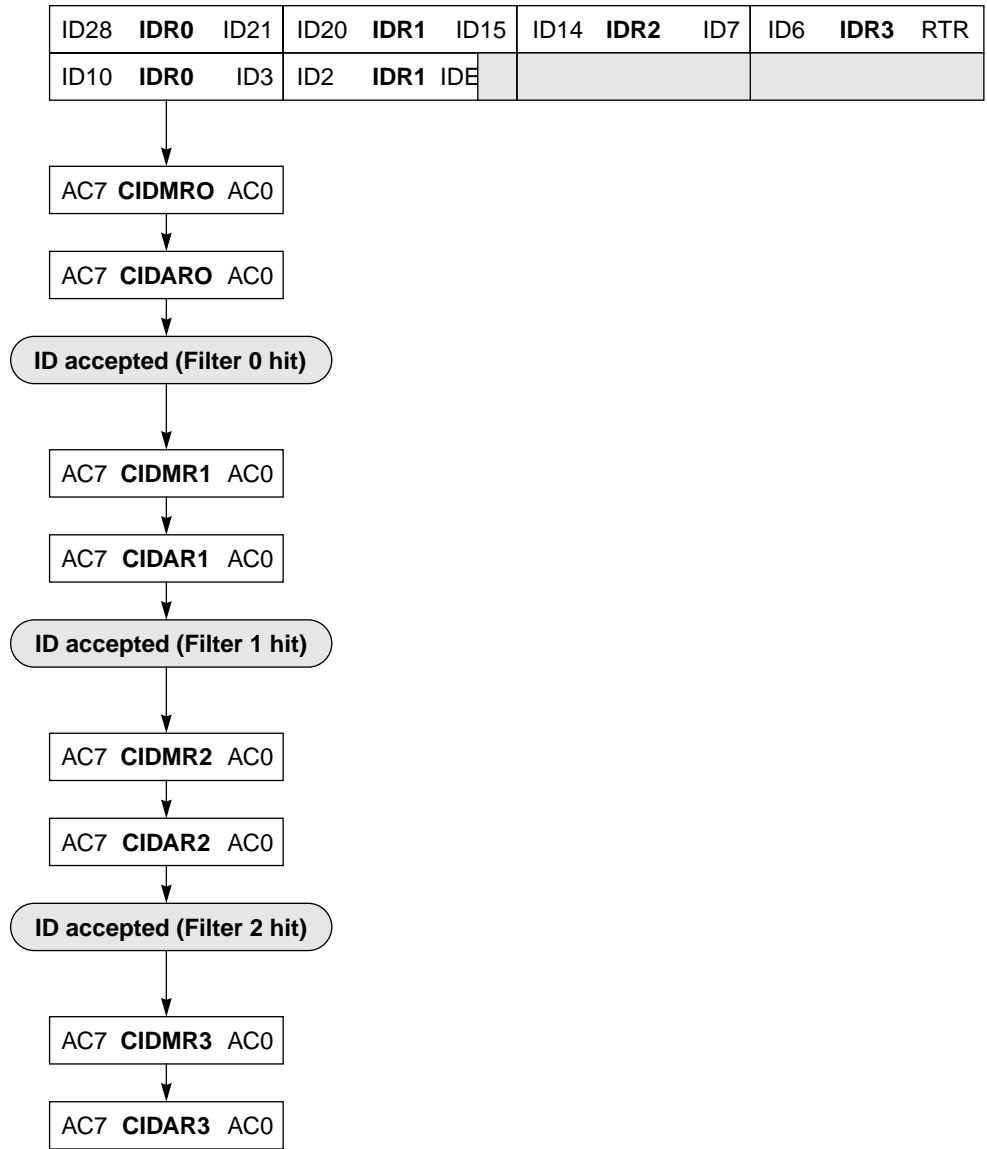

Figure 48 8-bit Maskable Acceptance Filters
- Eight identifier acceptance filters, each to be applied to the first 8 bits of the identifier. This mode implements eight independent filters for the first 8 bits of a CAN 2.0A/B compliant standard identifier or of a CAN 2.0B compliant extended identifier. Figure 48 shows how the first 32-bit filter bank (CIDAR0–3, CIDMR0–3) produces filter 0 to 3 hits. Similarly, the second filter bank (CIDAR4–7, CIDMR4–7) produces filter 4 to 7 hits.